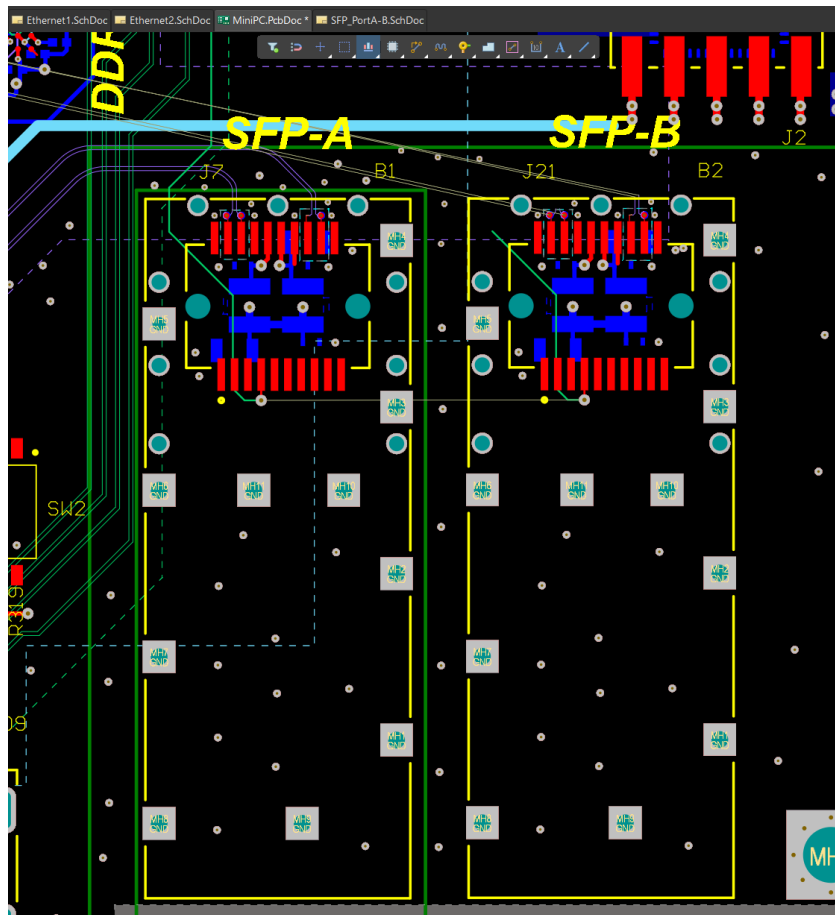

Figure 12. Position for SFP-B
30. After the replication completes, the circuit is attached to the cursor. Press Spacebar to position the circuit SFP-B to its correct orientation, as seen in Figure 12.